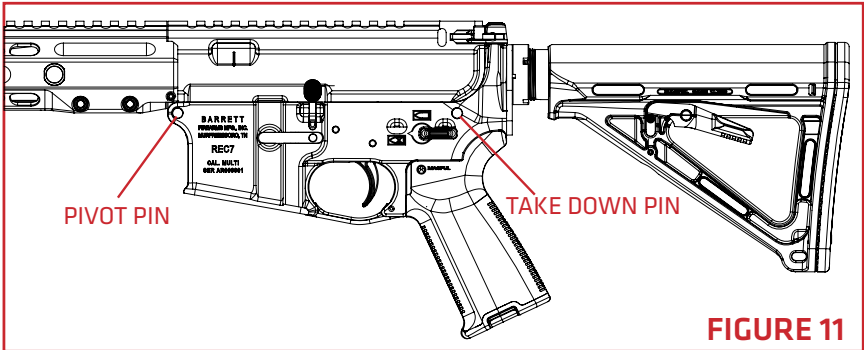

FIGURE 11
1. Ensure rifle is unloaded and clear by following the steps in the previous section. With the safety on and bolt closed, push the take down pin (rear most pin) until it clears its detent and stops (**FIGURE 11**). Take down and pivot pins are captured and cannot be removed. Push the pivot pin (forward most pin) until it clears its detent and stops. Separate the upper and lower receivers.